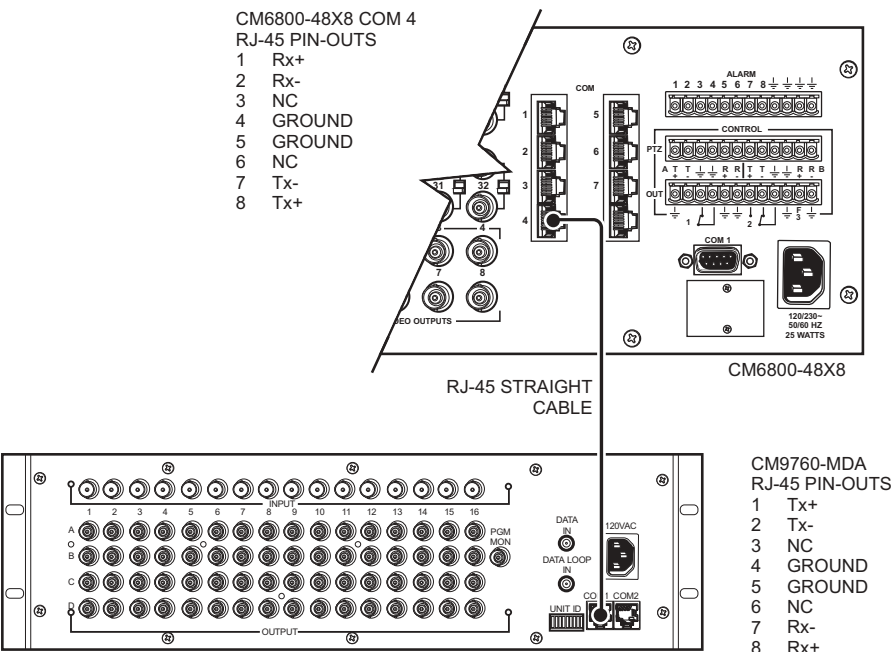

Figure 1
**SOLUTION:** Refer to Figure 1 and the instructions below.